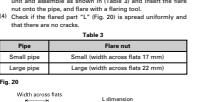

Fig. 19
- When installing the drain pipe, plug all the holes & holes at two places other than the drain pipe mounting hole in the bottom of the outdoor unit with putty as there is no water leakage (Fig. 19). (Reverse cycle model only)